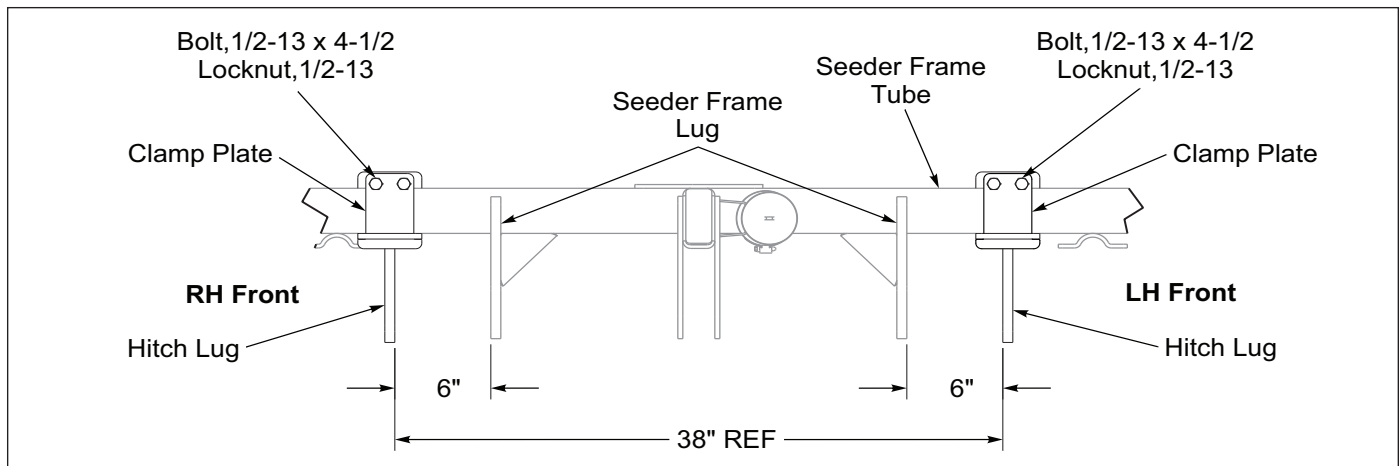

Figure 2-14: Quick Hitch Adapter Kit - Dimensions
2. Place the Hitch Lugs against the front and bottom of the Seeder Frame Tube and position each Hitch Lug 6" outward from the Seeder Frame Lug. See Figure 2-14.